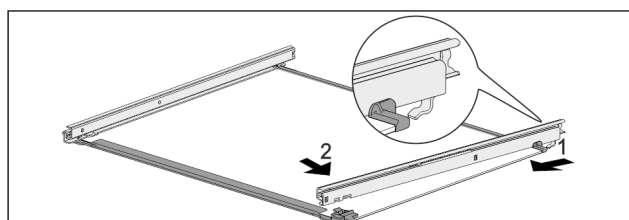

Fig. 123 Glass shelf with rails
- Hook in rail at the back. Fig. 123 (1)
- Hook in rail at the front. Fig. 123 (2)